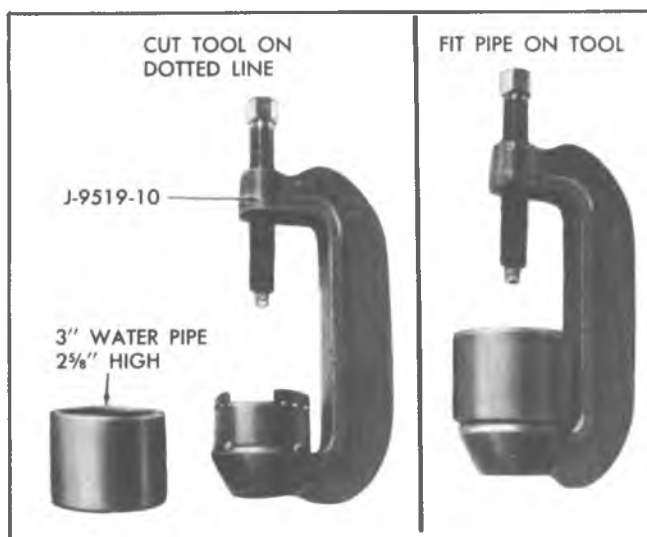

Fig. 37—Alteration to Tool J-9519-10
**NOTE:** It will be necessary to alter Tool J-9519-10 as illustrated in Fig. 37 and install a 3" I.D. pipe as shown if working on a 20 or 30 series vehicle.